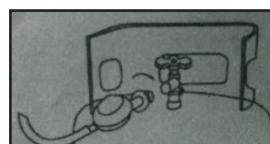

Fig. 2
2. Rotate the pressure reducing valve to connect it to the corner valve of the gas bottle. (Fig. 2)